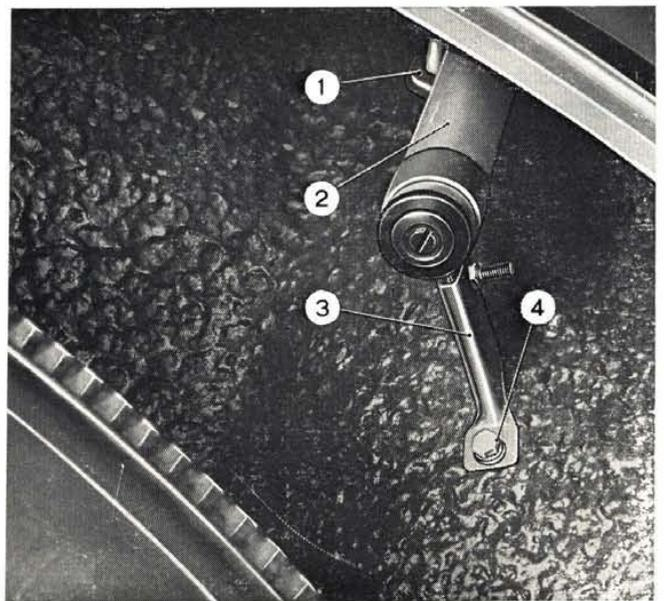

Fig. 381 - Detail of antenna mounting.
- separately, set the collar clamp and the antenna mounting bracket (3, fig. 381) on the antenna screen;
— position the mounting bracket at right angle to the antenna; drill the opening on the body panel and secure the bracket as shown in fig. 381;
— thread the antenna cable through the opening (1, fig. 381) and place the protection grommet tightly on to the opening.